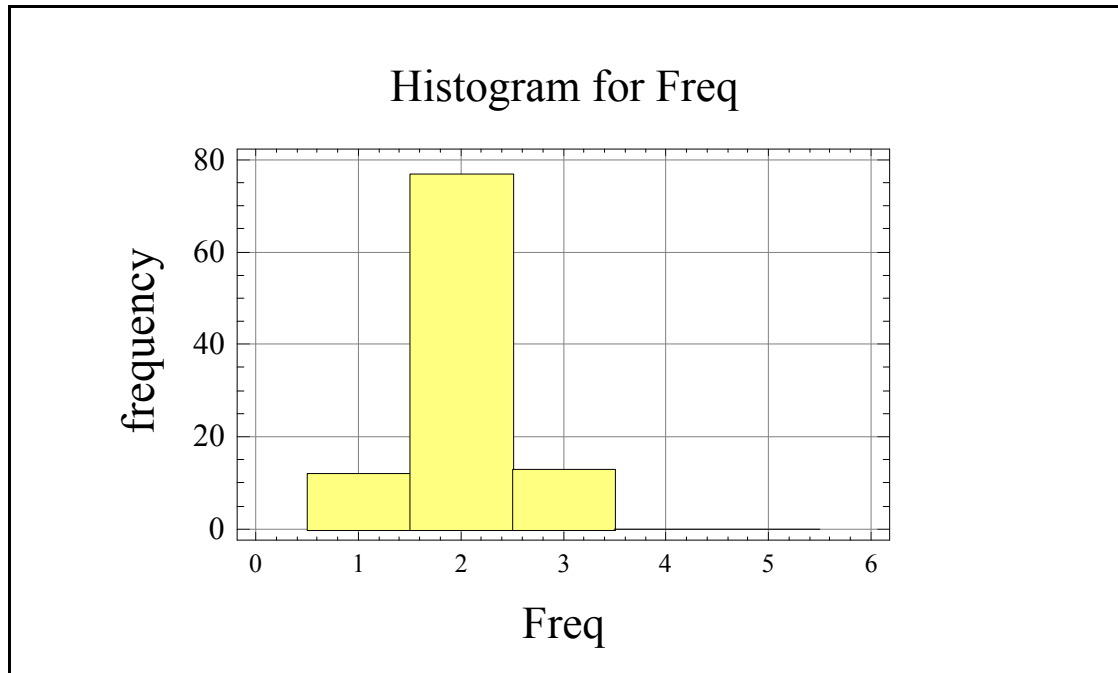

Figure 1 Frequency Distribution of Project Management Undesirable Effects
- a. **Figure 1** shows the frequency distribution for the frequency of occurrence of the various Project Management Undesireable Effects (PMUE's). The mode (most frequently occurring score) is a score of "2" which is *good* when compared to most organizations.